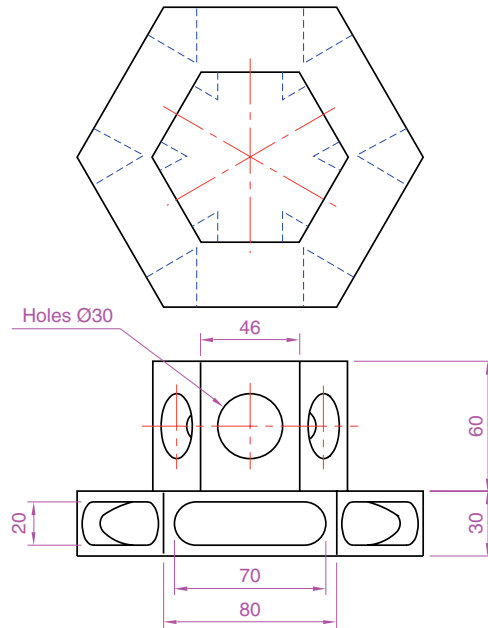

Fig. 17.31 Exercise 2 – details of the shapes and sizes
2. The two-view projection (Fig. 17.31) shows a stand consisting of two hexagonal prisms. Circular holes have been cut right through each